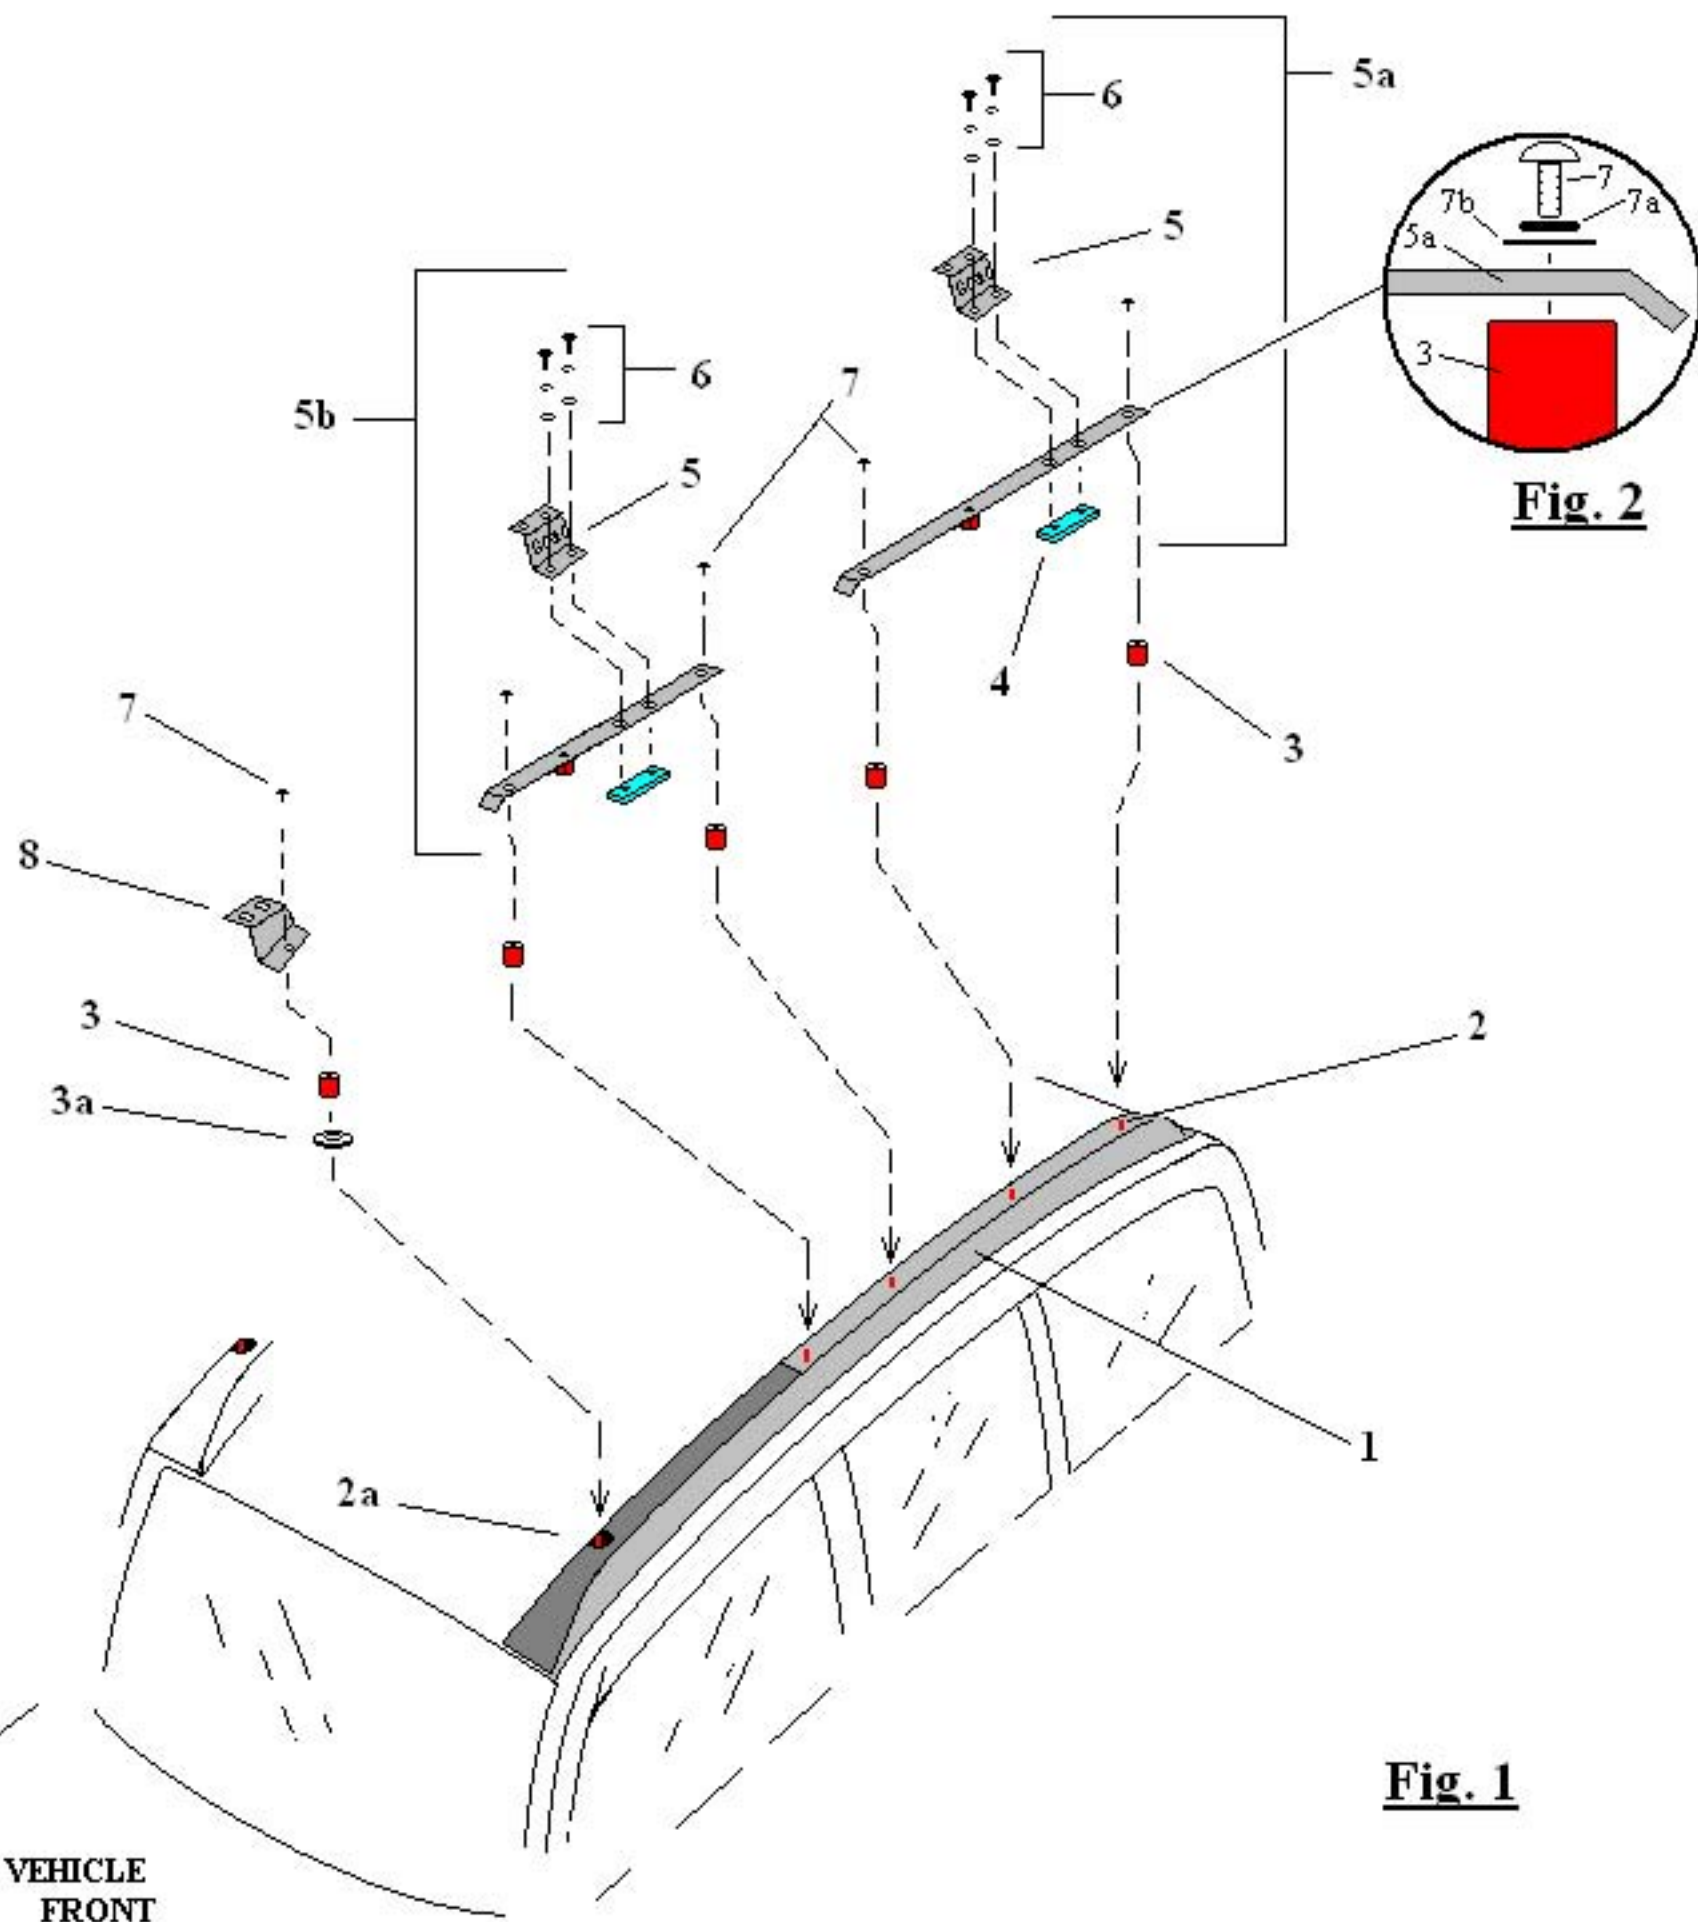

Fig. 1
- 1- Refer to page 5 Fig. 1 #2 using a 15mm socket remove all 10 aluminum plastic capped nuts holding down the upper roof plastic trim #1, 5 nuts per side. Do not remove the plastic trim.
- 2- Refer to page 5 Fig. 1 After you have removed all Trim nuts place 2 black Zinc plated Flat washers #3a found in Bag #3 of your install kit, one over each threaded stud #2a located at the front top of the vehicle as shown in Fig. 1 page 5. Then follow by threading an aluminum standoff #3 also located in Bag #3 over each of the front threaded studs and Black Zinc plated washer previously installed. Secure in place but do not over tighten. Continue to install the remaining aluminum Standoffs #3 over each of the remaining 8 threaded studs #2 as shown in Fig. 1. Tighten all aluminum standoffs securely but do not over tighten.
- 3- Refer to page 5 Fig. 1 and attach the preassembled rear support plate #5a labeled (passenger rear) and (drivers rear) to the rear of the vehicle over the top of the aluminum standoffs #3. Using the M6 x 15mm mounting screws, lock washer and flat washer located in Bag #3 thread each screw through the #5a support plate and into the aluminum standoff as shown in Fig. 2 page 5. Continue to the mid support plate 5b labeled (drivers side) and (passenger side) and attach in the same manner. Do not fully tighten all #7 mounting screws leave snug at this time for adjustment purposes.
- 4- Refer to Fig. 1 page 5 and continue to the front of the vehicle and attach mounting brackets #8 labeled (drivers side) and (passenger side). Using the last 2 sets of #7 mounting screws, lock washers and flat washers attach the #8 support bracket to the #3 aluminum standoffs and snug down the screws only, do not fully tighten at this time.